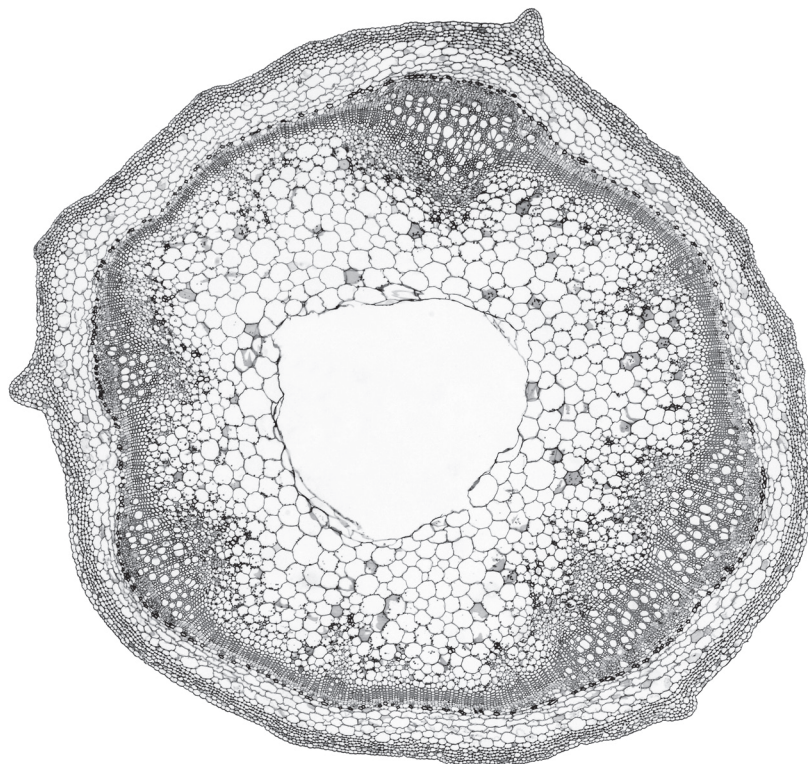
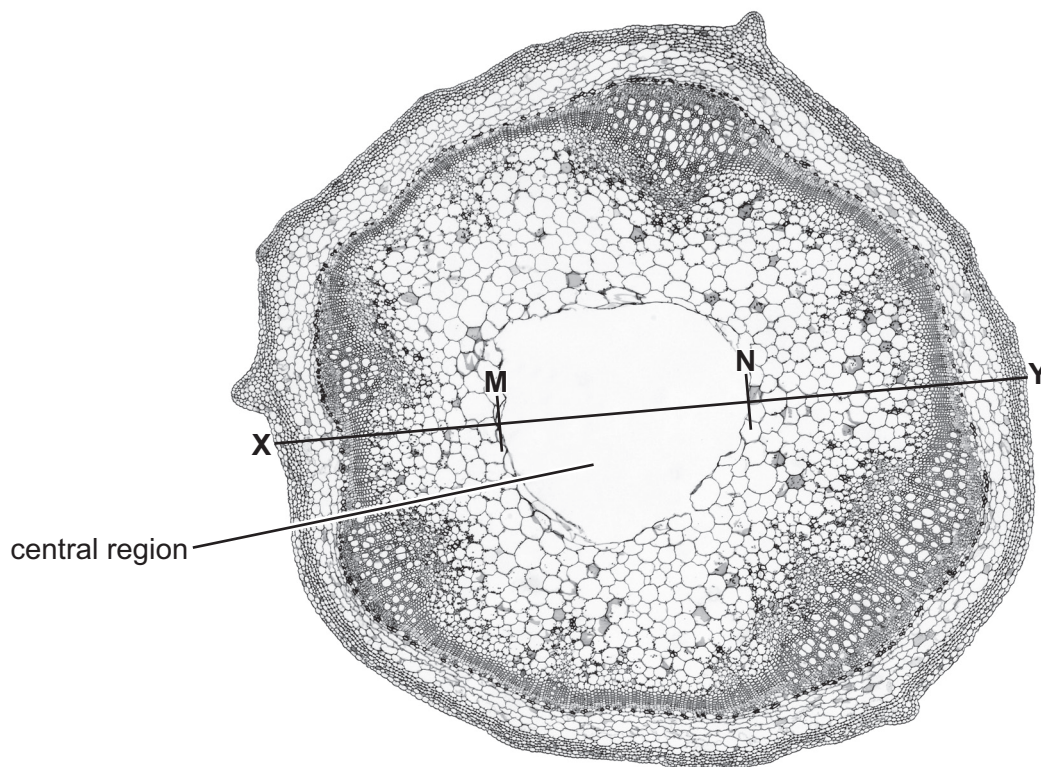

Figure 2.1
Figure 2.2
- (b) Figure 2.1 is a photomicrograph of a stained transverse section of a different organ from a different plant.
- (i) Identify **three** observable differences, other than colour, between the section on L1 and the section in Figure 2.1.
- (ii) Use your observations in **2(b)(i)** to identify the type of plant organ on **L1** and the type of plant organ in Figure 2.1.
plant organ in Figure 2.1
- (c) Figure 2.2 is the same photomicrograph as that shown in Figure 2.1.
In Figure 2.2: